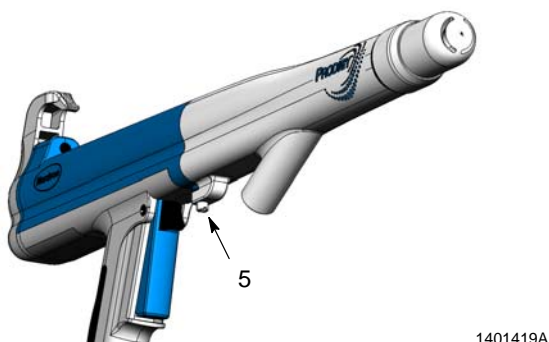

Figure 2 Loosening Adapter Set Screw
2. See Figure 2. Loosen the set screw (5) in the bottom on the adapter.